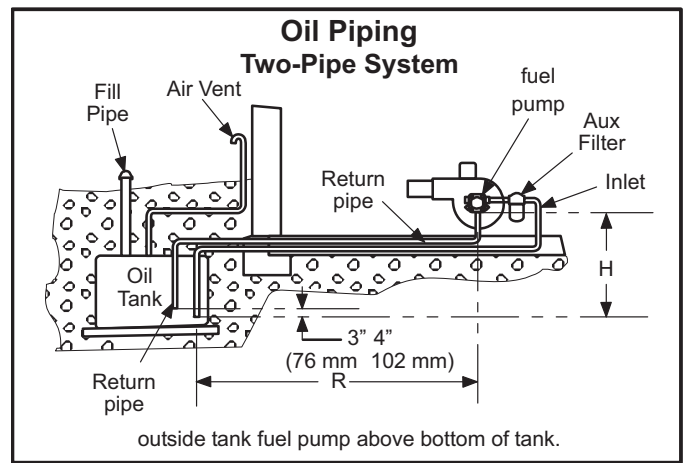

Figure 17
When using a two-pipe system with the oil tank below the level of the burner, a single-stage fuel pump should be used in lift conditions of up to 10 feet (3 m) and/or a vacuum of 10" (254 mm) Hg or less. See figure 17. Use a two-stage fuel pump when lift exceeds 10 feet (3 m) and/or a vacuum of 10" (254 mm) Hg to 15" (381 mm) Hg. Both conditions require that you use a two-pipe system, which consists of a return line that purges the fuel pump of air by returning it to the tank. To determine the run and lift for piping, refer to table 5.
- 2 - Insert bypass plug and tighten it. See figure 17.
- 4 - The return pipe must terminate 3" to 4" above the supply pipe inlet. See figure 17.